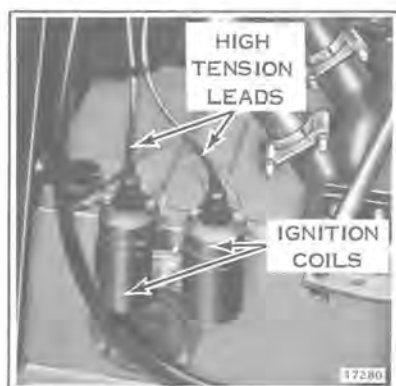

Figure 7-9
- e. Disconnect primary leads from terminals on top of ignition coils. Pull high tension leads from ignition coils (see Figure 7-9). Loosen ignition coil clamp screw to remove ignition coils.
Ignition coils (see Figure 7-9) should be tested for correct secondary resistance, correct primary resistance, coil polarity, and coil output. In addition, the coil insulation should be tested for leakage. See specification page and page 7-2 for values.